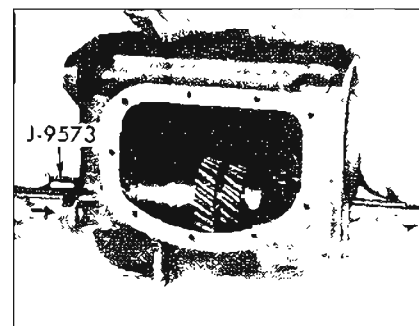

Figure 4-127—Removing Countergear with J-9573
16. From the front of the case, remove countershaft (Figure 4-127) with J-9573; then remove the countergear and both tanged washers.